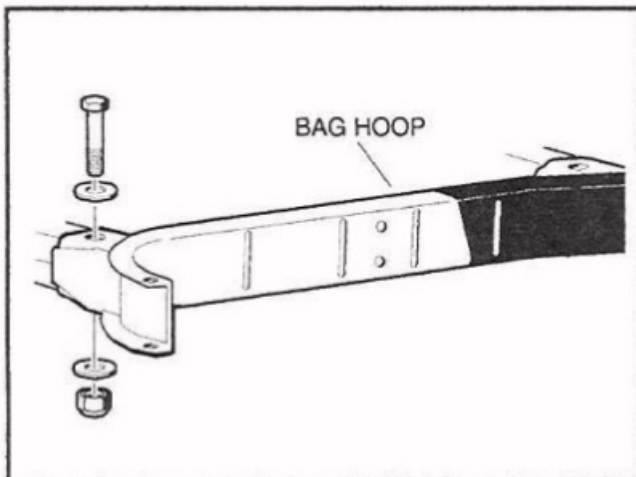

Figure 7 Remove Bag Hoop Mounting Hardware
- 4.1. Remove locknuts, washers and screws securing the bag hoop to the rear seat support (Figure 7). Discard hardware.